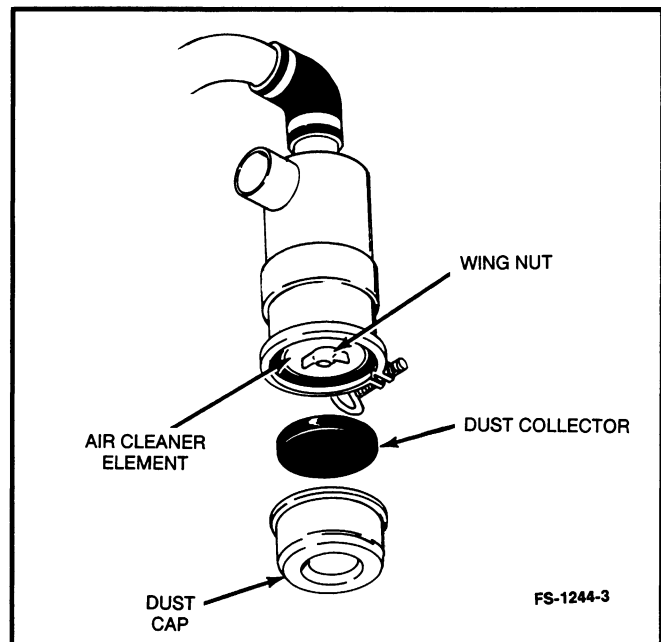

FIGURE 8-5. AIR CLEANER
1. Remove the dust cap (see Figure 8-5).